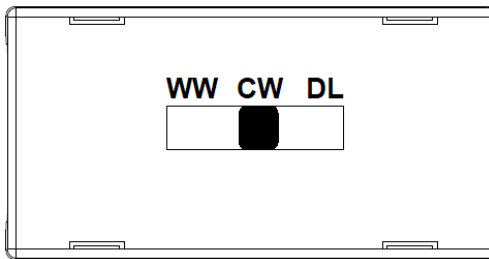

Fig. 3
- Choose the required colour temperature by means of the three-position switch (see Fig. 3)